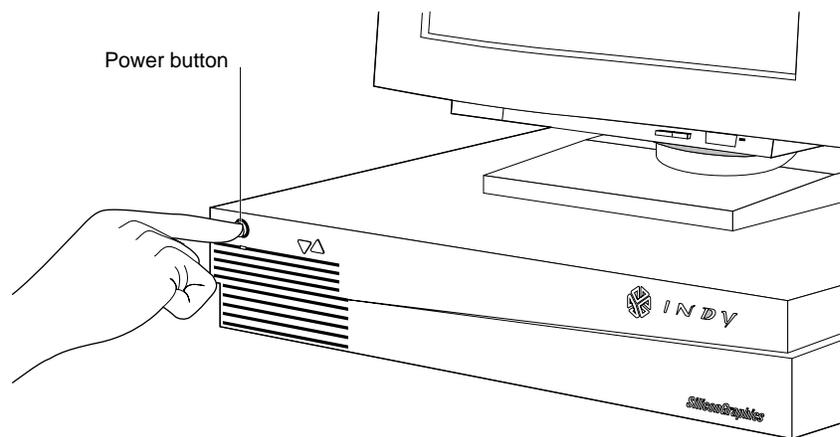

Figure 1-4 Turning Off the Indy Workstation
6. Turn off the power by pressing and releasing the power button on the front of the Indy, as shown in Figure 1-4. The system powers off automatically.